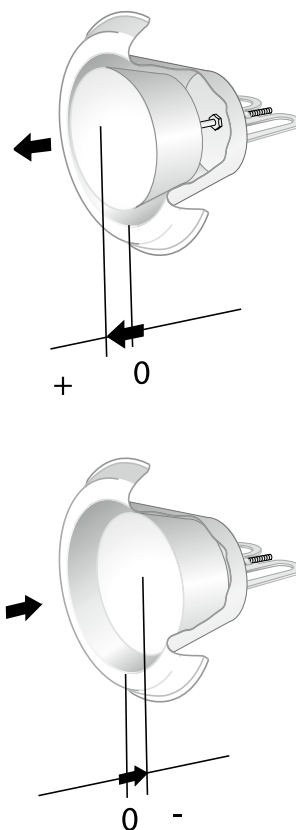

Figure 2. Commissioning.
The terminal is adjusted by pressure measurement or air flow measurement. Use a "measuring hook" for the pressure measurement or a suitable air flow meter to measure the air flow. See Figure 2.
- Sound pressure level dB(A) applies to rooms with 10 m² equivalent sound absorption area.
- The octave band correction value KOK gives the cone's zero setting according to Figure 2.